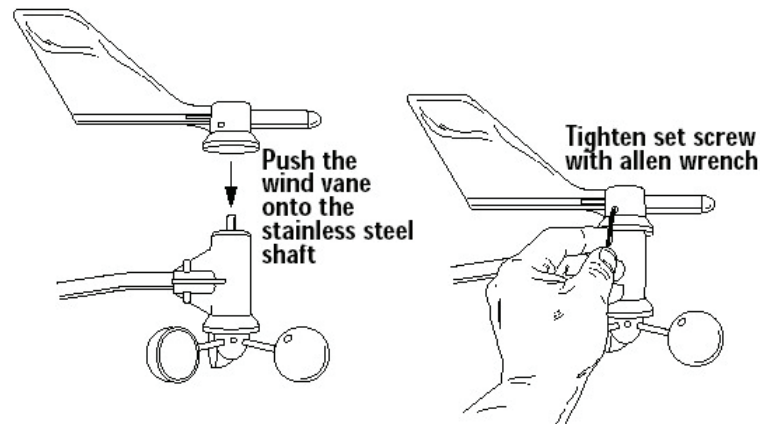

Figure 10: Installing the wind vane
- A. Place the wind vane on the shaft (see Figure 10)